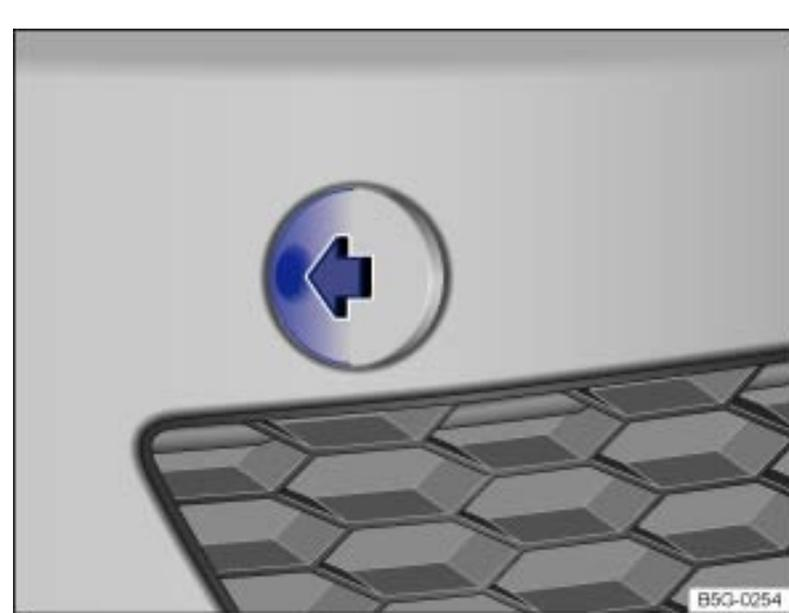

Fig. 226 In the right front bumper: Removing the cover.
- ▶ Push on the left side of the cover → Fig. 226 (arrow) so that it pops out.